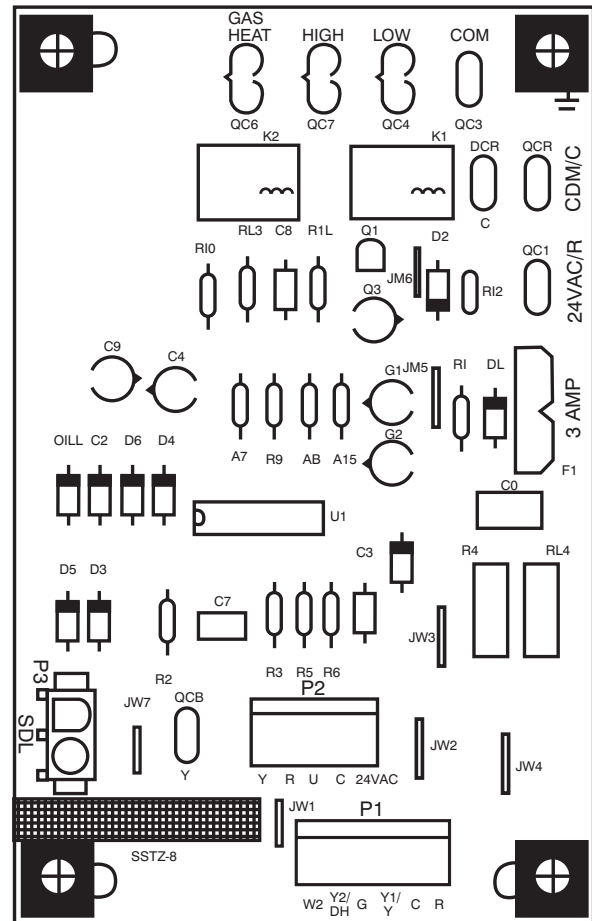

Fig. 14 - Interface Fan Board (IFB)
This unit is factory-set for use with a single cooling fan speed. For single phase models, the cooling speed is marked “COOL” on the IGC (See Fig. 13). For 3-phase models, the cooling speed is marked “LOW” on the interface board (IFB) (See Fig. 14). The factory-shipped settings are noted in Tables 7 and 8. There are up to 3 additional speed tap wires available for use in either gas heating mode, cooling mode, or continuous fan mode (For color coding on the indoor fan motor leads, see Table 6). For single phase models, one of the additional speed tap wires is connected to the continuous fan, with the other 2 wires shipped loose in the control box near the IGC. For three phase models, the additional 3 speed tap wires are shipped loose with vinyl caps and are located in the control box near the interface fan board (IFB) (See Fig. 14).
2. Remove the current speed tap wire from the “GAS HEAT” terminal on the interface fan board (IFB) (Fig. 14) and place vinyl cap over the connector on the wire.
2. Remove the current speed tap wire from the “LOW” terminal on the interface fan board (IFB) (Fig. 14) and place vinyl cap over the connector on the wire.
1. Remove fan speed tap wire from the “LOW” terminal on the interface fan board (IFB) (Fig. 14).
When the DEHUM feature is not used, the continuous fan speed will be the same as cooling fan speed. When the DEHUM feature is used, the continuous fan will operate on IFB “LOW” speed when the DH control lead is not energized, or IFB “HIGH” speed when the DH lead is energized (see Fig. 14).